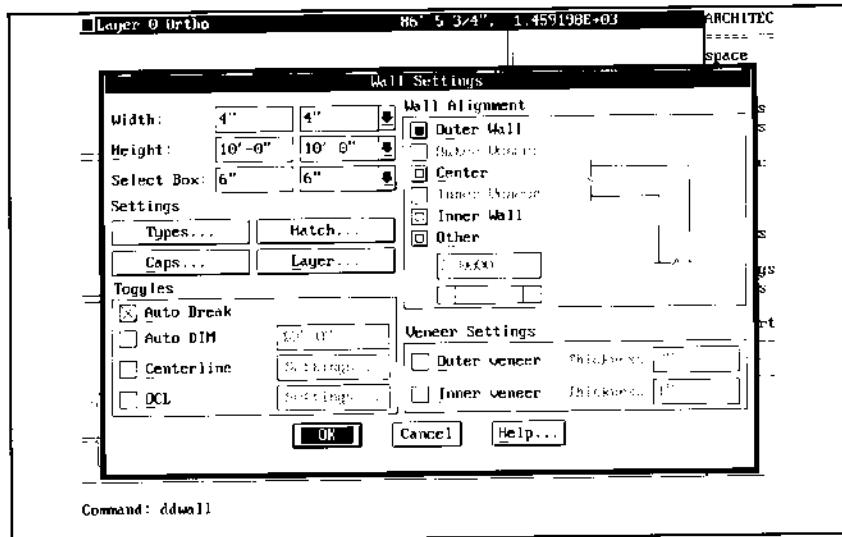
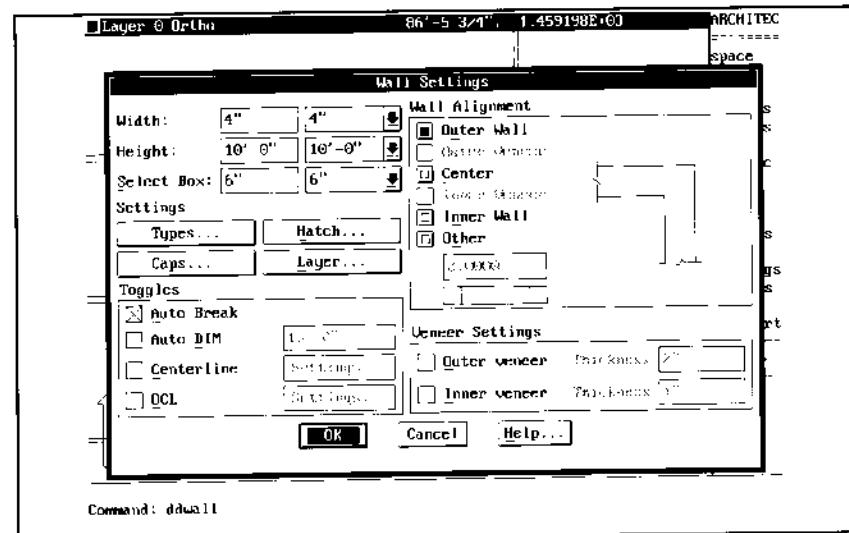

Figure 60.
Figure 61.
3. Enter 4" in the Width: edit box, then activate the Outer Wall ratio button in the Wall Alignment section, as shown in Figure 60, or enter the values in the wall status box as shown in Figure 61.